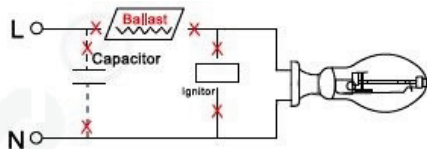

Fig. 1: Cut All Connections to Ballast, Capacitor & Ignitor
- Cut all connecting leads to the ballast, ignitor, and capacitor, as shown by the red 'X's' in Fig. 1.